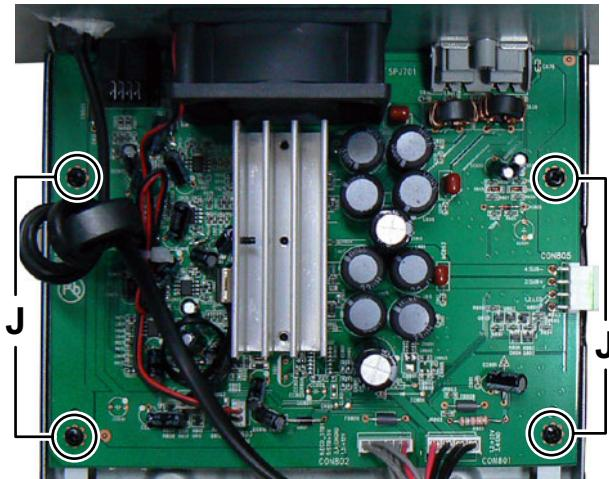

Fig.10
- (2) Remove the four screws **J** attaching the Amp board. (See Fig.10)